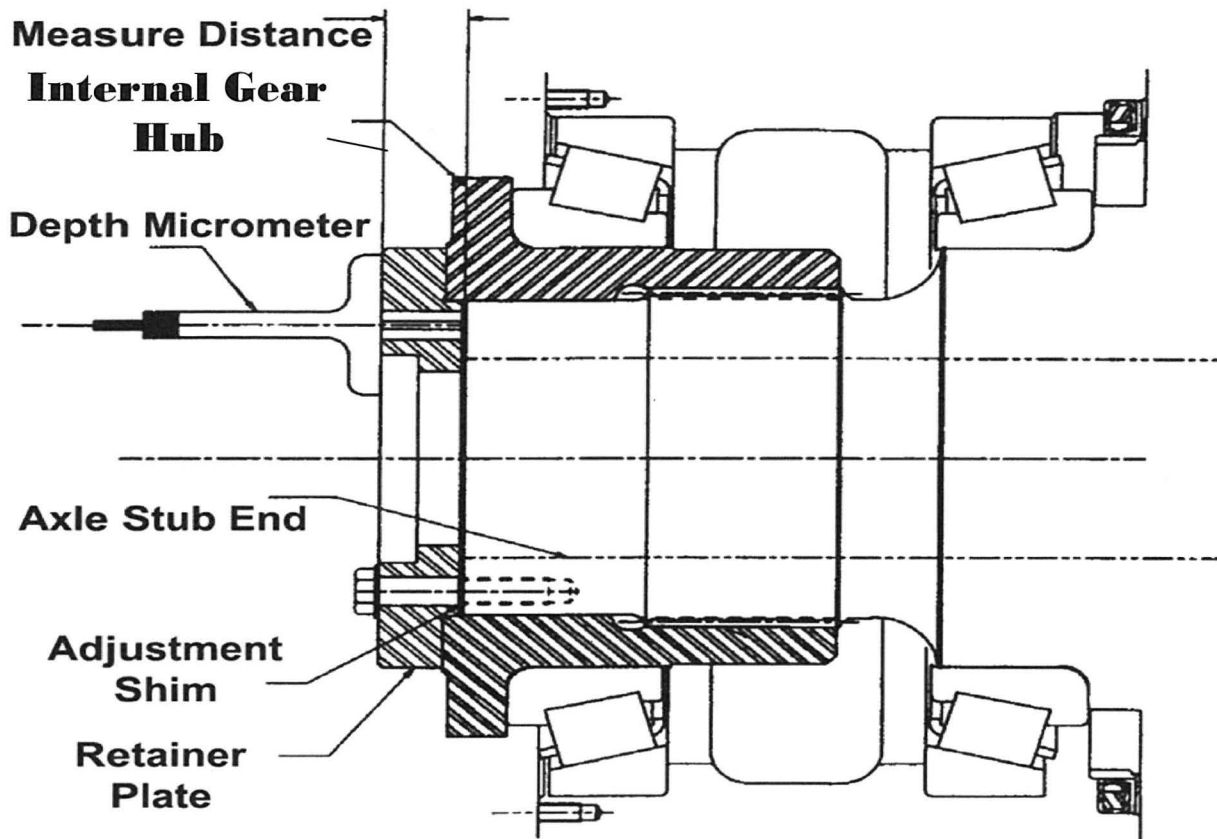

FIGURE 5
7. Using a depth micrometer, measure the total distance from the outer surface of the bearing retainer plate to the stub end, through each of the two retainer plate measuring holes and average the two measurements and record. See (**Figure 4. PAGE 10 and Figure 5, PAGE 11**).